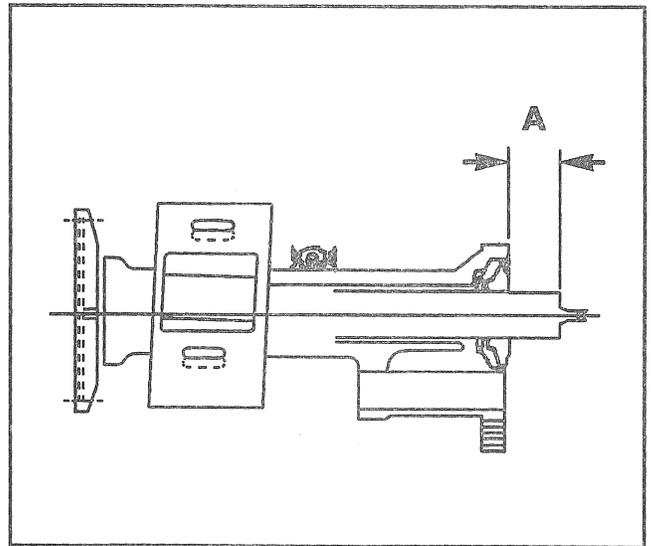

Figure 45—Measuring to Calculate Shim Size—Axle Shaft
- Refer to Figures 45 through 48
2. Measure dimension "A." Use J 34672 or equivalent (Figures 45 and 47).